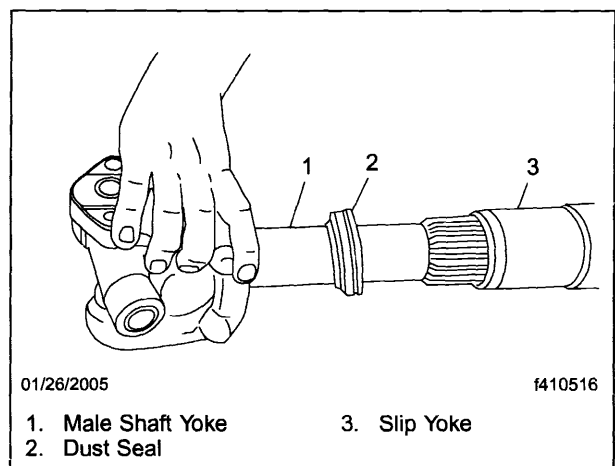

Fig. 4, Removing the Male Shaft Yoke
- 1.3 Remove the male shaft yoke from the slip yoke. See **Fig. 4**.